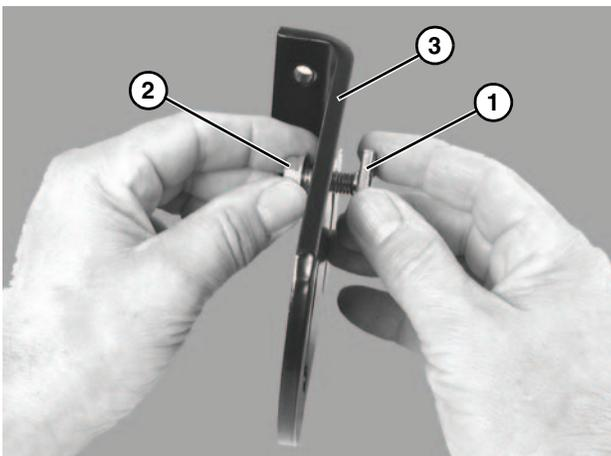

Figure 6
- Attach nut (**Figure 6, item 1**) and flange head hex screw (**Figure 6, item 2**) to each slot of conveyor mounting bracket (**Figure 6, item 3**).